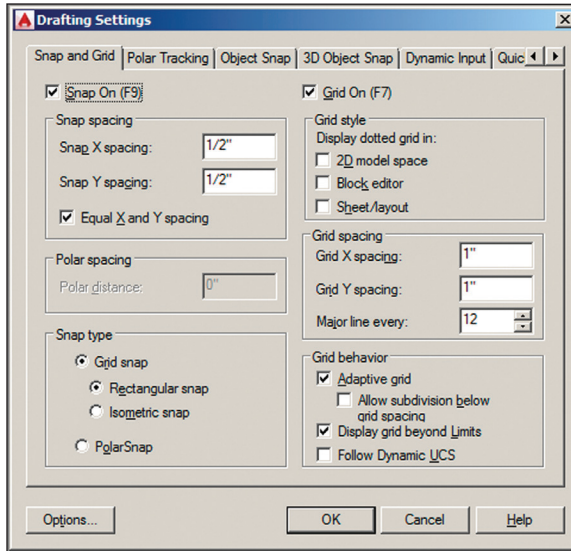

FIGURE 3.2 Setting up grid spacing and toggling on Snap
4. Type `DS` and press Enter to open the Drafting Settings dialog box. Change Grid X spacing to 1" (or 10 for metric) and press Tab; Grid Y spacing updates with the same value. Set Major Line Every to 12 for Imperial (or 10 for metric) so that you'll see darker grid lines every foot. Notice that Snap spacing is set to 1/2" (or 10 mm) by default. Select Snap On and verify that the Grid Snap and Rectangular Snap radio buttons are selected in the Snap Type area (see Figure 3.2). Click OK.
2. Select the PolarSnap radio button in the Drafting Settings dialog box. Type 1" (or 10 for metric) in the Polar Distance text box (this dialog was shown in Figure 3.2). Click OK.